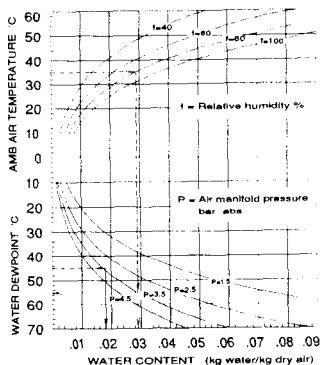

Fig 03-1
- The charge air temperature should, in principle, be as low as possible at loads higher than 60 %, however, not so low that condensation occurs. See chapter 03, Fig 03-1. At loads lower than 40 % it is favourable to have a charge air temperature as high as possible.